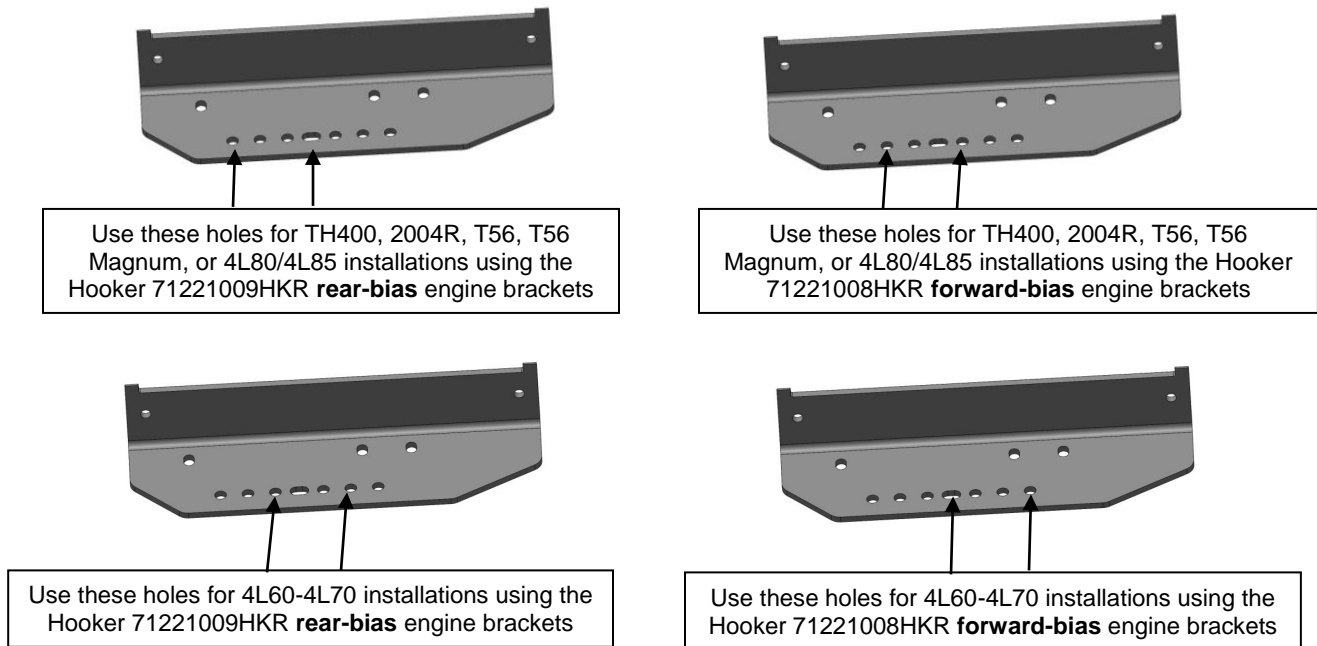

Figure 2 (Driver's side bracket shown – passenger's side similar)
5. Place the crossmember assembly on top of the frame adapter brackets and line up the holes in the ends of the crossmember with combination you are using in your swap. See **Figure 2** for the correct hole pattern to use for your combination.